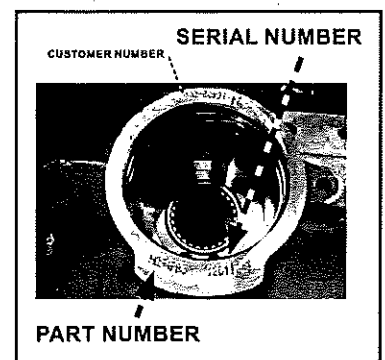

Figure 3 – Style 3
**Style 3:** The serial number and part number should be displayed on one line with a space between the part number and serial number. This style will also have a customer number printed on the housing opposite of the part number and serial number. See *Figure 3*.